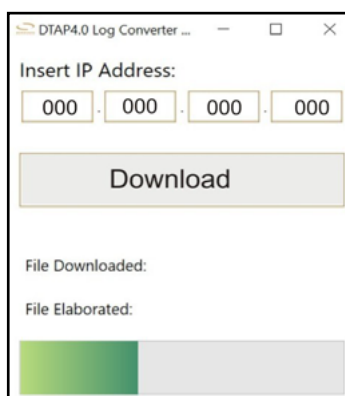

FIG. 10
The program has a simple graphic interface (Fig. 10) where you can enter the IP address of the control panel of the threading unit.
- Enter the IP address of the panel and then press Download (Fig. 10)
The program will make a copy of the SD inside the panel and will proceed in elaborating the files. State of advancement will be displayed in the progress bar and in "File download" and "File Elaborated" fields (Fig. 10)